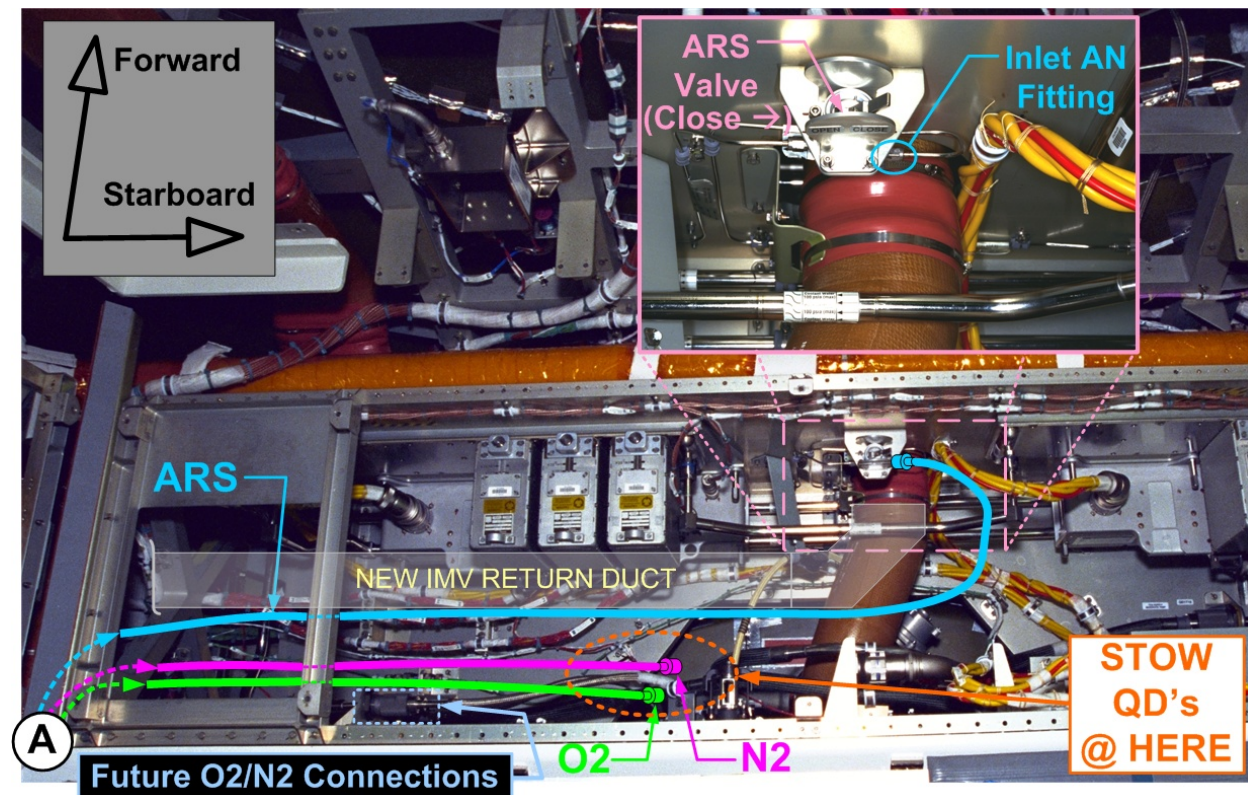

Figure 9.- ARS and O2/N2 Hose Routing in Deck Alcove Area.
- 6.1.3 Route NOD1 Air Sample Hose (ARS) into Deck Alcove through zenith opening in the X-shaped structural member. Route NOD1 Air Sample Hose (ARS) hose parallel to new IMV duct installed in a previous step. Refer to Figure 9.
Refer to Figure 9.